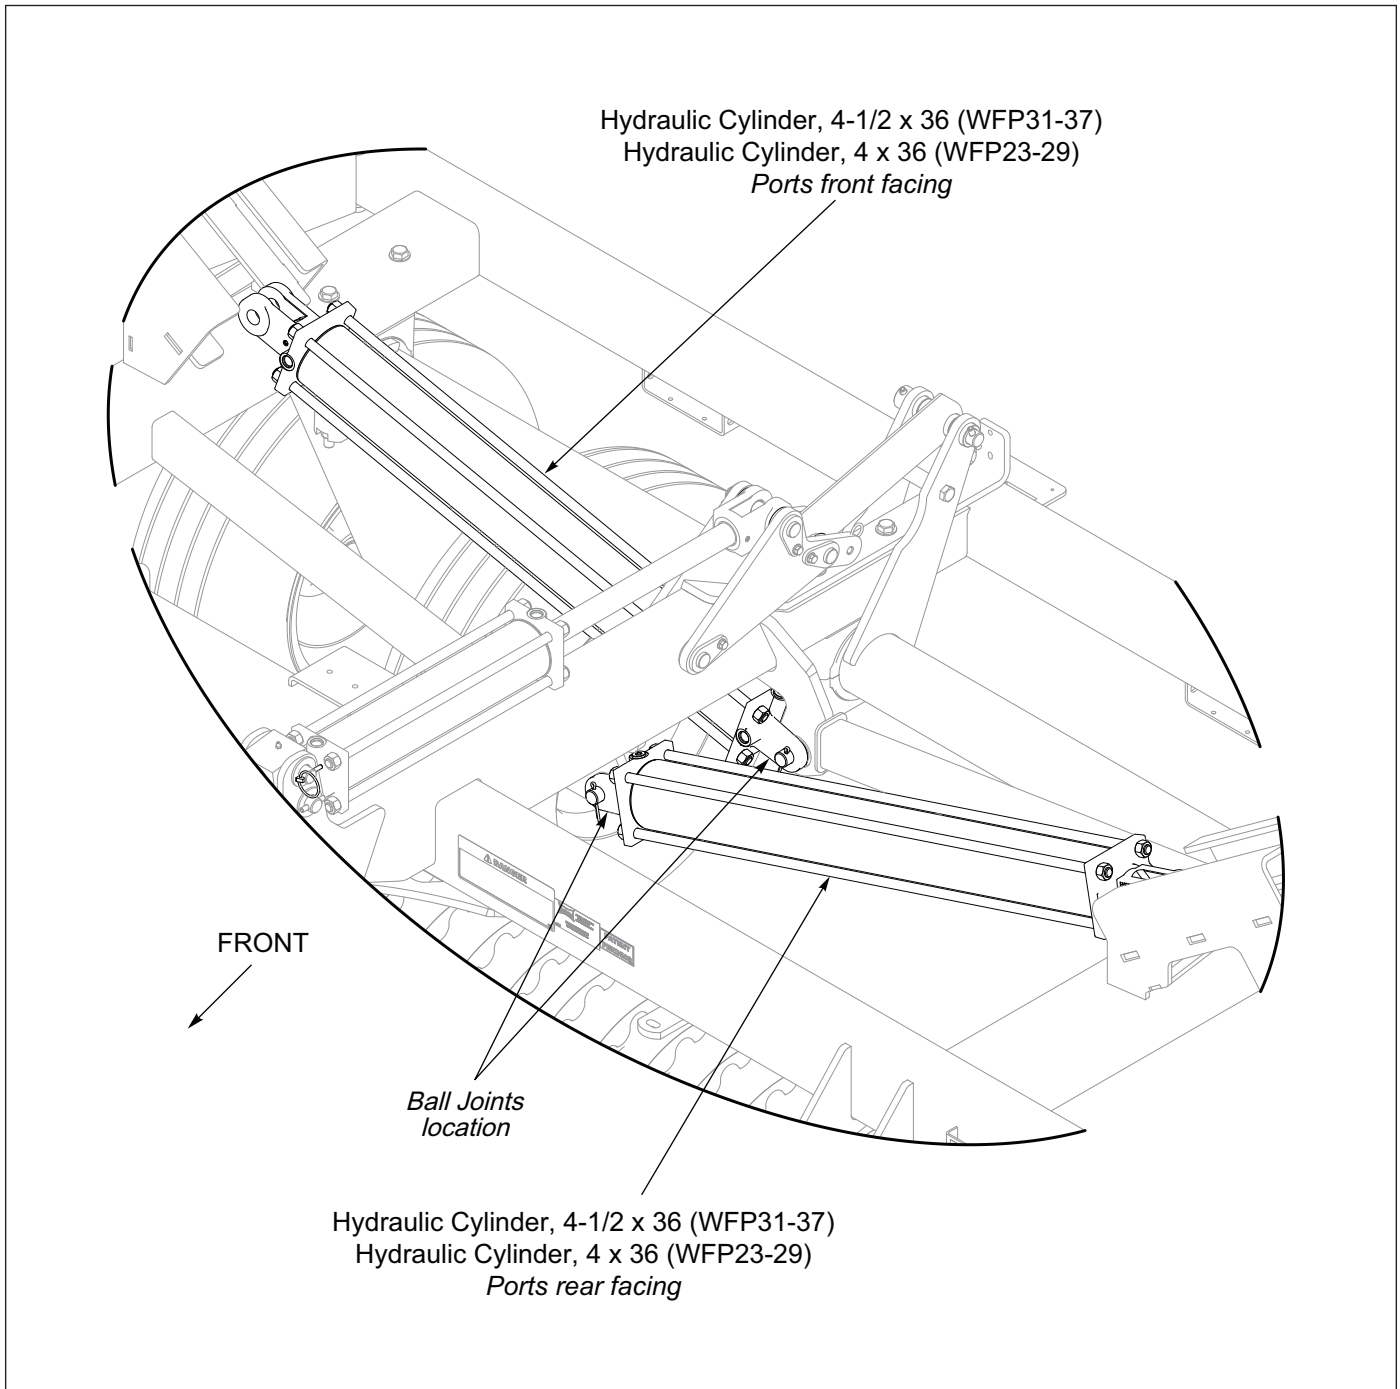

Figure 2-10: Wing Fold Cylinder Installation
3. RH Cylinder ports are front facing and LH Cylinder ports are rear facing. **See Figure 2-10.** Attach base end of the 4 x 36 Hydraulic Cylinder (WFP23-29) or 4-1/2 x 36 Hydraulic Cylinder (WFP31-37) to the Center Frame Ball Joints with the vendor supplied hardware.